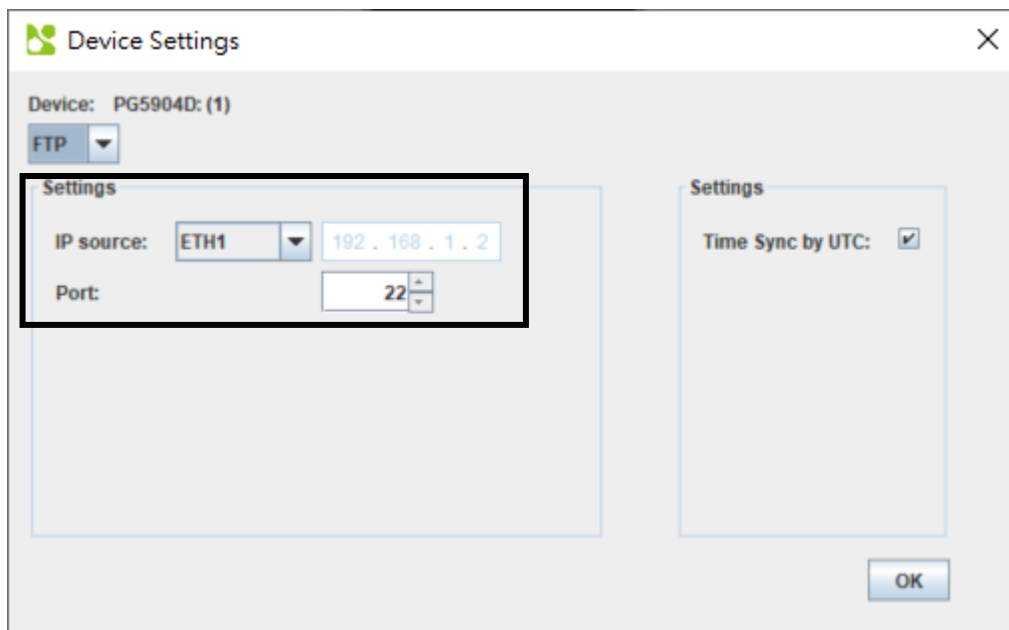

Figure 5-21 - Device settings window.
- 1 **Open Device Settings** – Can be used to change FTP settings as in Figure 5-21.